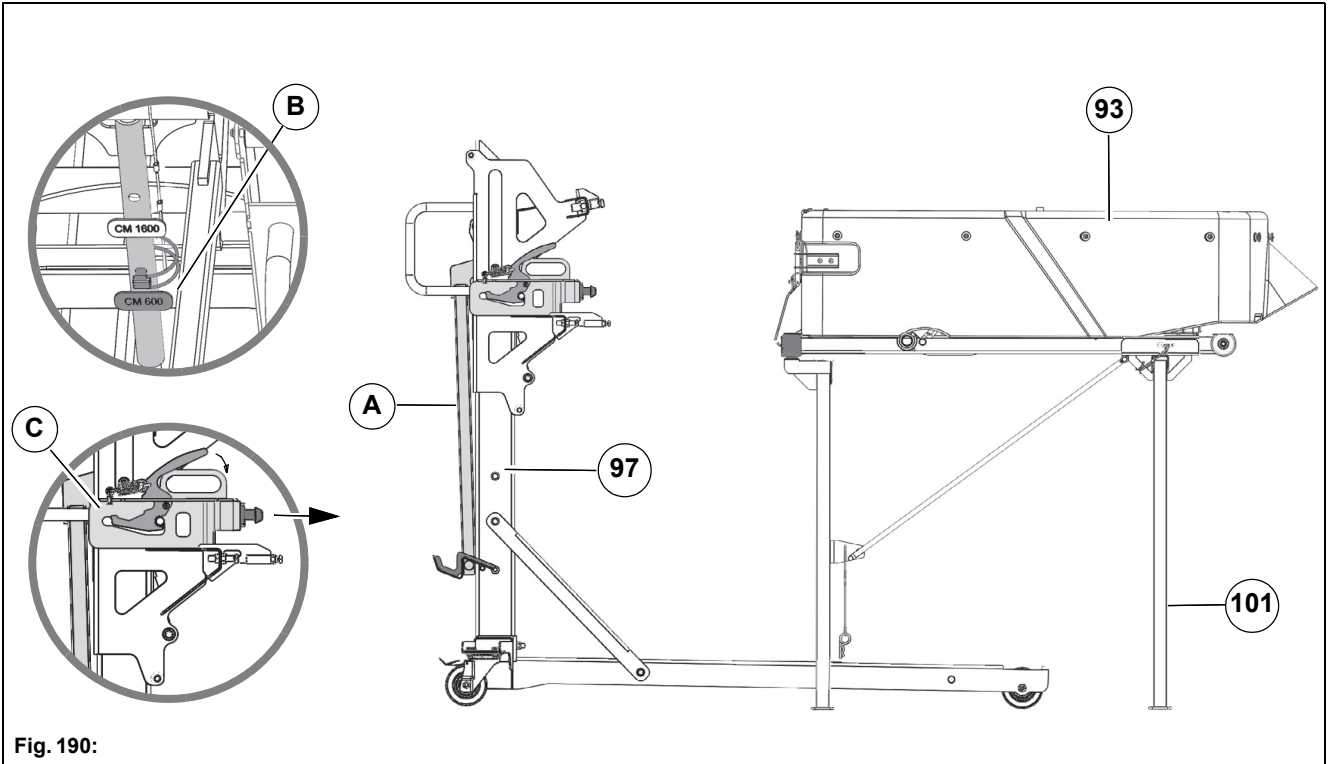

Fig. 190:
2. Unlock the lever **Fig. 190-A** of the trolley **Fig. 190-97** and swing it into the upper position.
3. Hold the lever **Fig. 190-A** in the upper position with one hand. With your other hand plug the mounting bolt **Fig. 190-B** on the Citymaster 650.
<p>Danger Risk of injury! The lever Fig. 190-A can swing over.</p>
4. Unlock the sledge **Fig. 190-C** with the lever and push it into the front position.